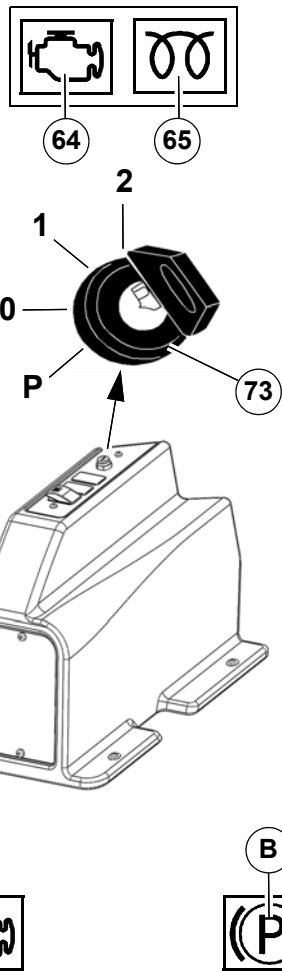

Fig. 38:
- If the engine oil pressure warning symbol **Fig. 38-A** in the multifunctional display lights up with the engine running, there is a risk of engine damage! Stop the vehicle in the safe range. Turn the engine off immediately and check the oil level. Have the cause of the inadequate engine oil pressure removed.
- The parking brake warning symbol **Fig. 38-B** in the multifunctional display may light up.